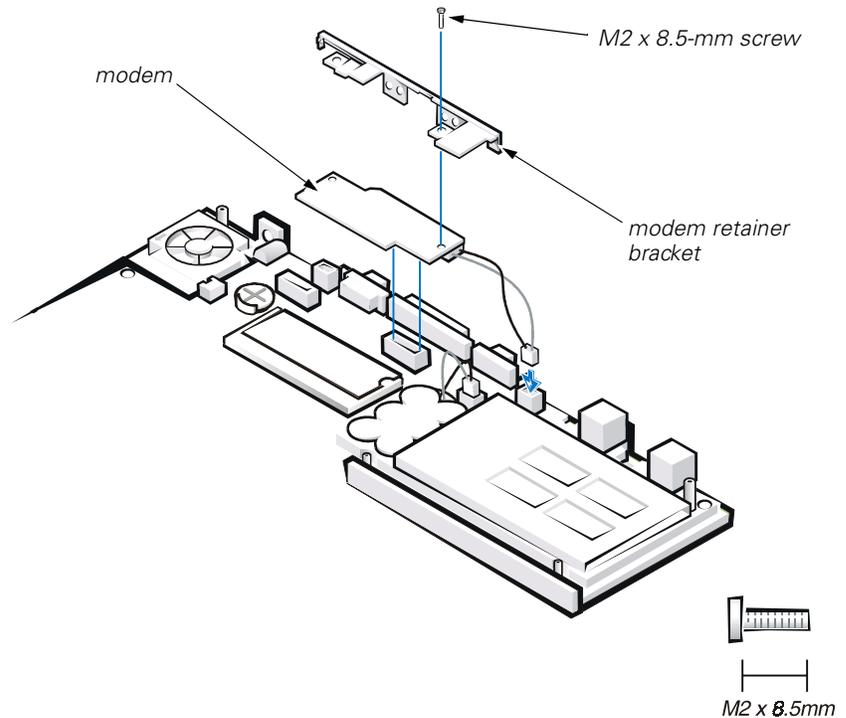

Figure 19. Modem Removal
7. Remove the M2 x 8.5-mm screw that secures the modem retainer bracket and modem to the system board (see Figure 19).